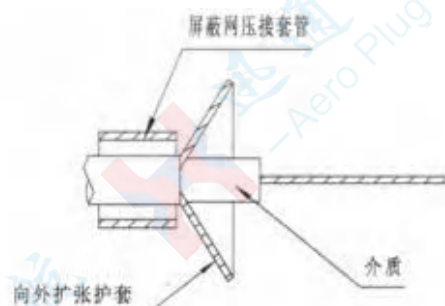

图25
② Pass the shield braid crimp ferrule over the cable jacket as shown in Figure 25.